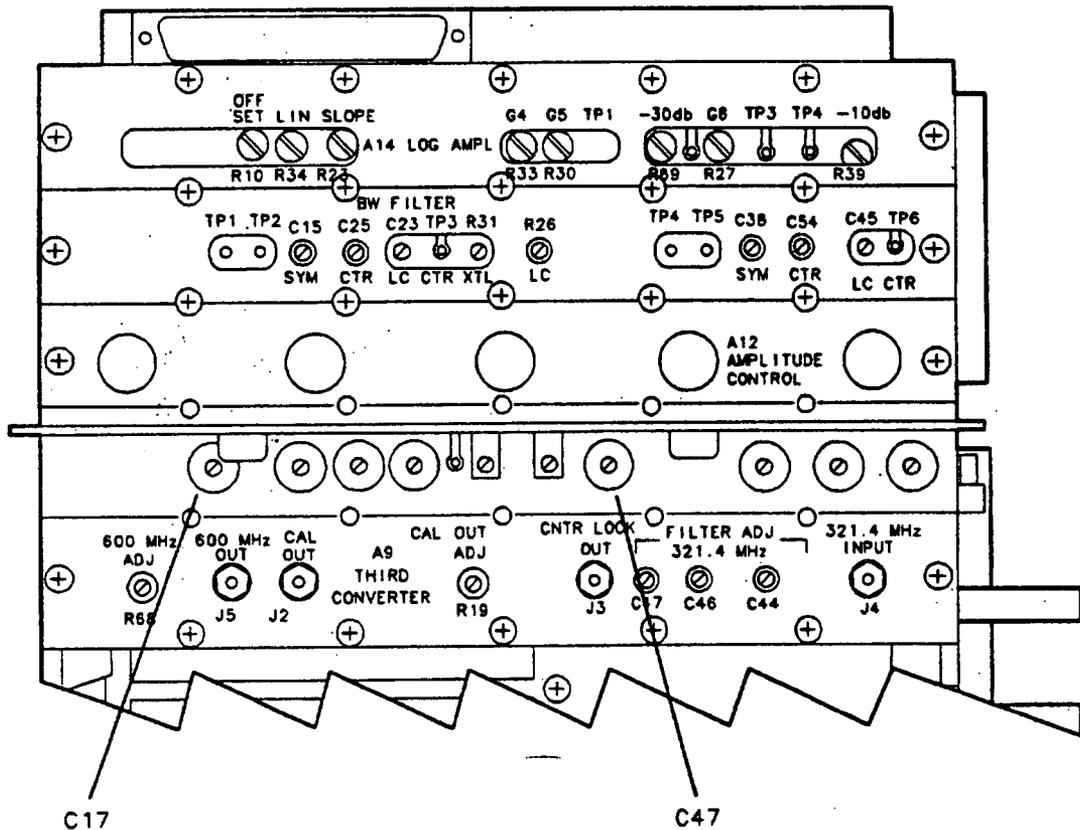

Figure 2-11. LC Dip Location
19. To access the LC dip capacitors C17 and C47, remove the covers from the A11 and A13 assemblies. See Figure 2-11.